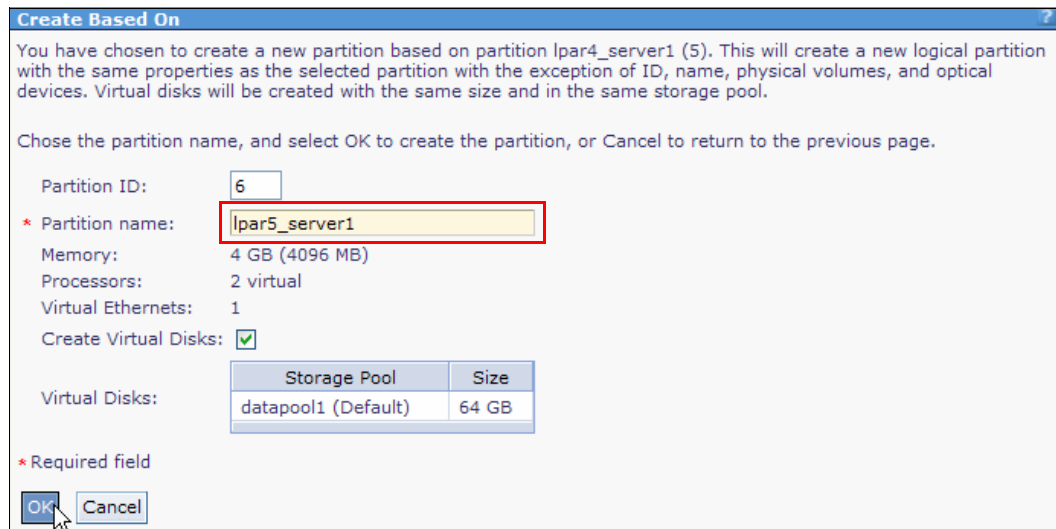

Figure 4-49 Create based on: name of the new LPAR
4. The Create Based On panel opens (Figure 4-49). Enter the name of the new partition, and click **OK**.